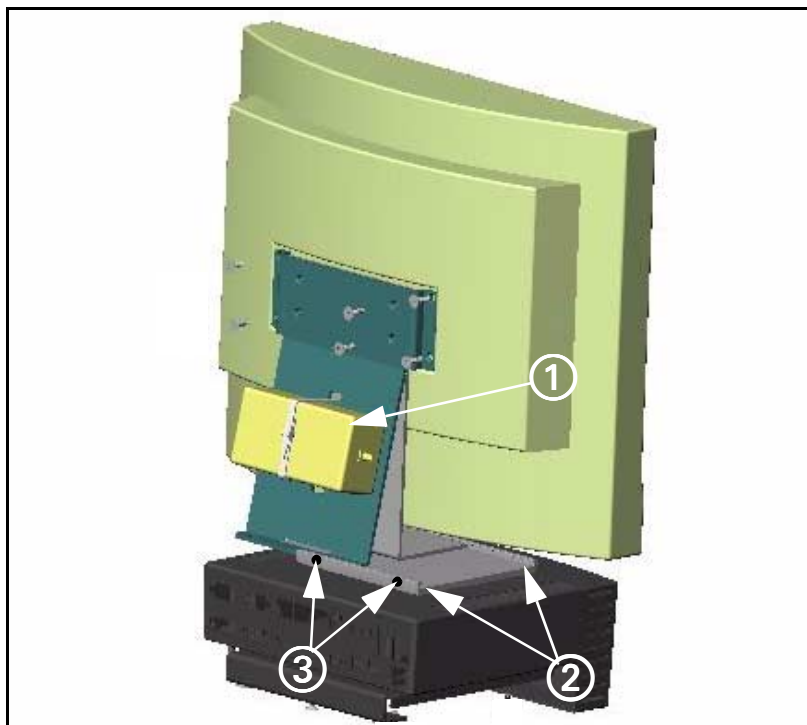

Figure 5-6 Flat Screen Display mounted to MDS
- 9) Set power supply (① in Figure 5-6) between both slots on support mount, and tighten cable tie to secure supply to mount.
- 10) Set flat screen display upright with bottom of support mount aligned to slots on mounting bracket (installed in step 2 and 3 above), and slide mount into bracket (② in Figure 5-6 on page 11), so that mount is positioned in center.
- 11) Insert and tighten 2 Phillips-head screws (supplied, ③ in Figure 5-6) on rear of mounting bracket to secure flat screen display in bracket.